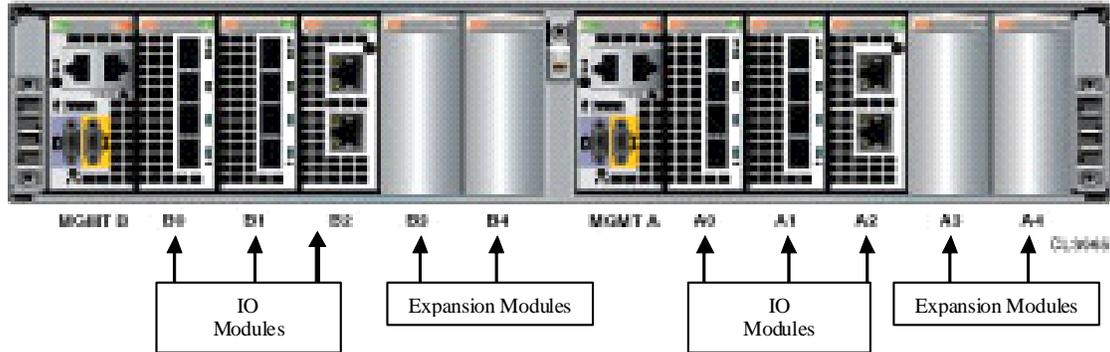

Figure 2. Rear view of the CX4-480 DC SPE
Figure 2 shows the rear of the storage processor enclosure for a CX4-480 DC storage processor. Each CX4-480 DC SP (base configuration) has four Fibre Channel front-end (FE) ports, and two iSCSI FE ports, as well as two additional I/O Module slots that allow for expanded front-end connectivity. By default, the speed of the FE ports is set to **auto-negotiate**. Navisphere Manager or CLI allows the user to select a specific speed. These ports are customer-replaceable small-form-factor pluggable optical transceivers inserted into field-replaceable Fibre Channel I/O Modules. Each SP also has four 4 Gb/s Fibre Channel back-end ports, which, along with the peer SP, form four redundant FC back-end loops for disk connectivity and capacity expansion.